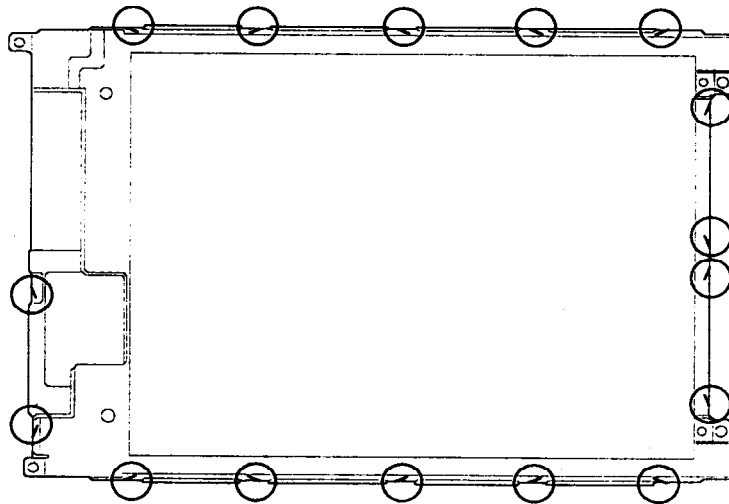

Figure 4-29 Unbending the Color LCD Module Latches
To remove the T1900C's FL, follow the steps below and refer to Figures 4-29 through 4-31.
3. Lay the **color LCD module** face down and use needle-nose pliers to unbend the **16 latches** holding the front and back frames together. Then lift the unit out of the front frame (Figure 4-29).
To install the T1900C's FL unit, follow the steps below and refer to Figures 4-29 through 4-31.
3. Carefully bend the **16 latches** back into place (Figure 4-29).